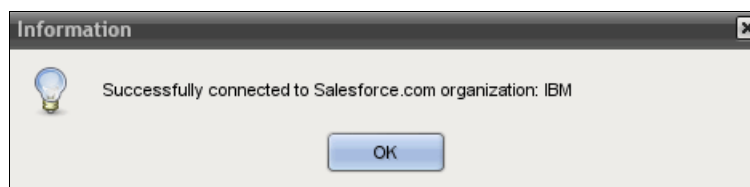

Figure 10-10 Successful connection to Salesforce.com panel
1. Click **Test Connection**. Studio attempts to log in to Salesforce.com. If the login is successful, a message opens that displays your organization's name, as shown in Figure 10-10.